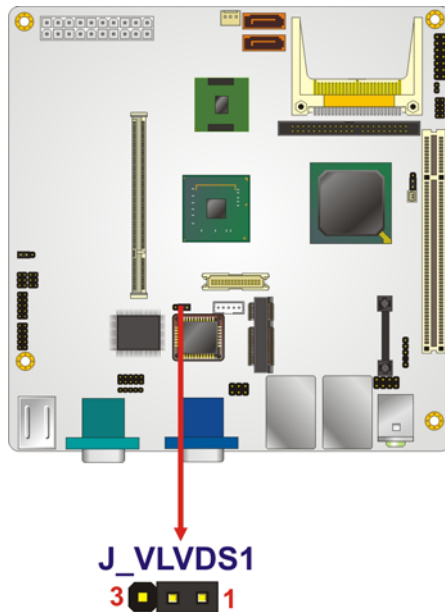

Figure 5-8: LVDS Voltage Selection Jumper Pinout Locations
- Jumper Location:** See Figure 5-8
The **LCD Panel Type Selection** jumper location is shown in Figure 5-8.
The LVDS Voltage Selection jumper location is shown in Figure 5-8.